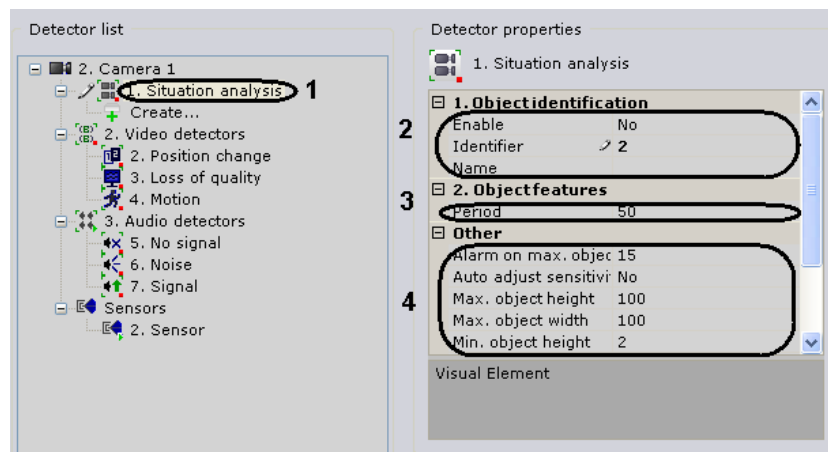

Fig. 6.4—2 General parameters of situation analysis detectors
1. In the detector list, highlight a **Situation analysis** object (Fig. 6.4—2, 1) which offers a means of analyzing the situation in the field of view of the required video camera.
2. In the **Period** field (see Fig. 6.4—2, 2), enter the time in milliseconds after which the next video image frame will be analyzed. The value should be in the range [0, 65535]. If the value is 0, each frame of the video image is analyzed.
3. If you need automatic adjustment of the sensitivity of a motion detector or an abandoned object detector, select **Yes** in the **Auto adjust sensitivity** list (see Fig. 6.4—2, 3).
4. In the **Max. object height** and **Max. object width** fields (see Fig. 6.4—2, 4), enter the maximum height and width of a detectable object as a percent of the height of the video image frame. The values should be in the range [2, 100].